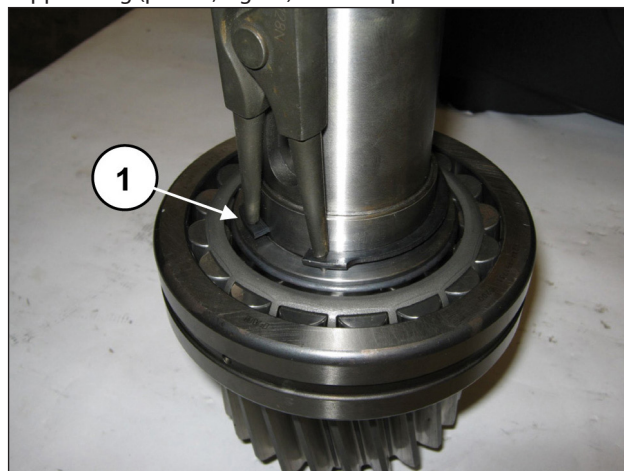
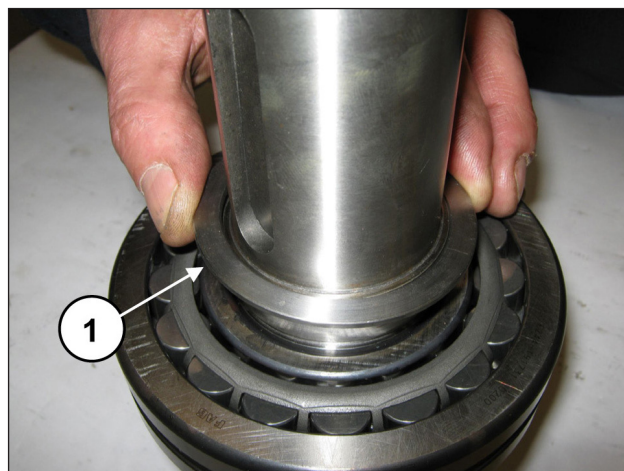

Fig. 9
Fig. 10
Remove the Seeger ring Ø55 (pos. ①, Fig. 9) and the bearing support ring (pos. ①, Fig. 10) from the pinion